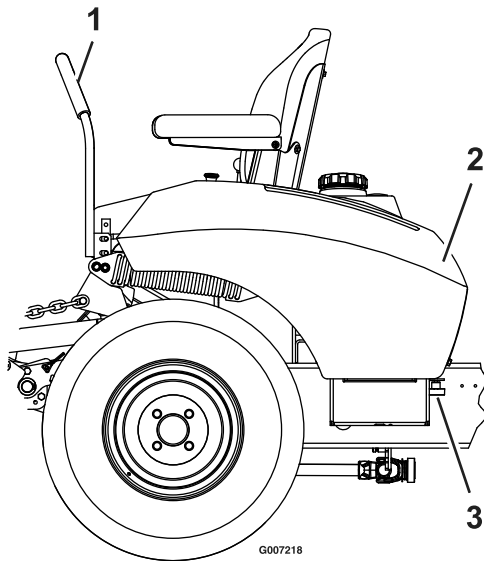

Figure 19
2. Locate and loosen the knob under the rear of the left fender (see Figure 19).